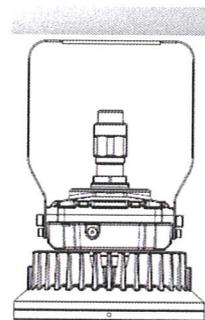
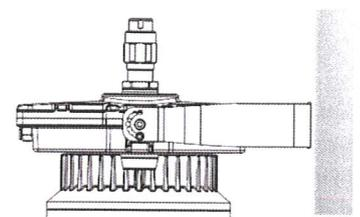

Figure 1
Figure 2
- ☞ The mount bracket is for the use of both ceiling mount (Figure 1) and wall mount (Figure 2).